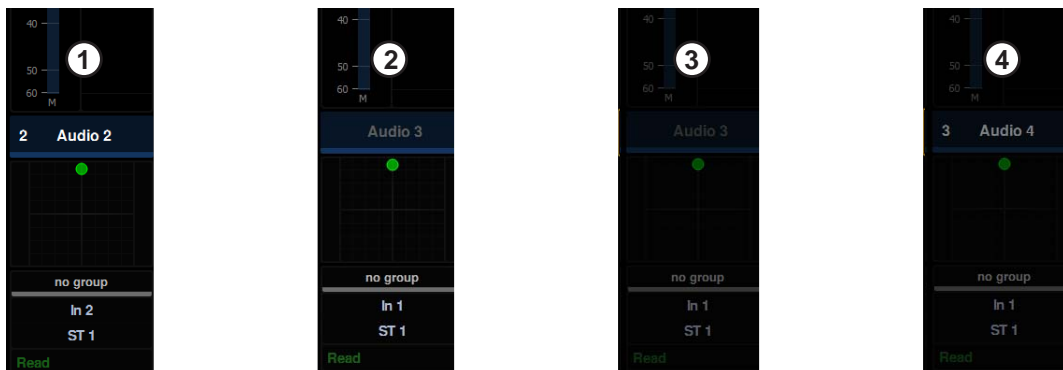

Figure 5. Hidden tracks (images 2, 3, and 4) on a Display Module
- If the track is hidden but unmuted, track name (only) is dimmed, and no track number is shown (“2” in Figure 5).
- If the track is hidden and muted, the entire strip is dimmed, and no track number is shown (“3” in Figure 5).
- If a track is muted, the entire strip is dimmed, track name is dimmed slightly, and track number is shown (“4” in Figure 5).